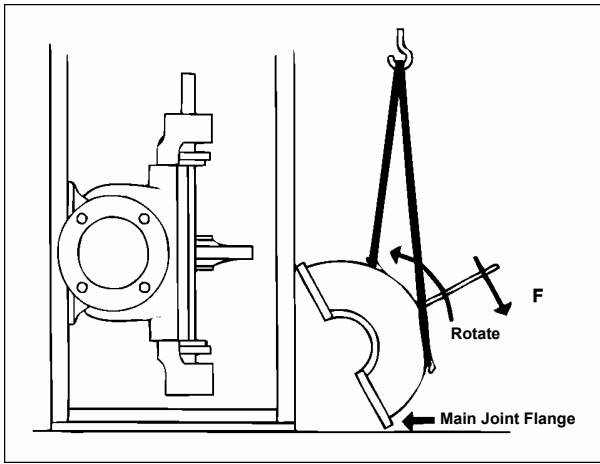

FIGURE 56 – UPPER HALF REMOVAL
- Balancing the upper half with the stabilizing rod, lower the top half to the ground allowing the upper half to rotate so that its main joint flange sets on the ground (See Figure 56).
(Reference Figure 56 with rotation in